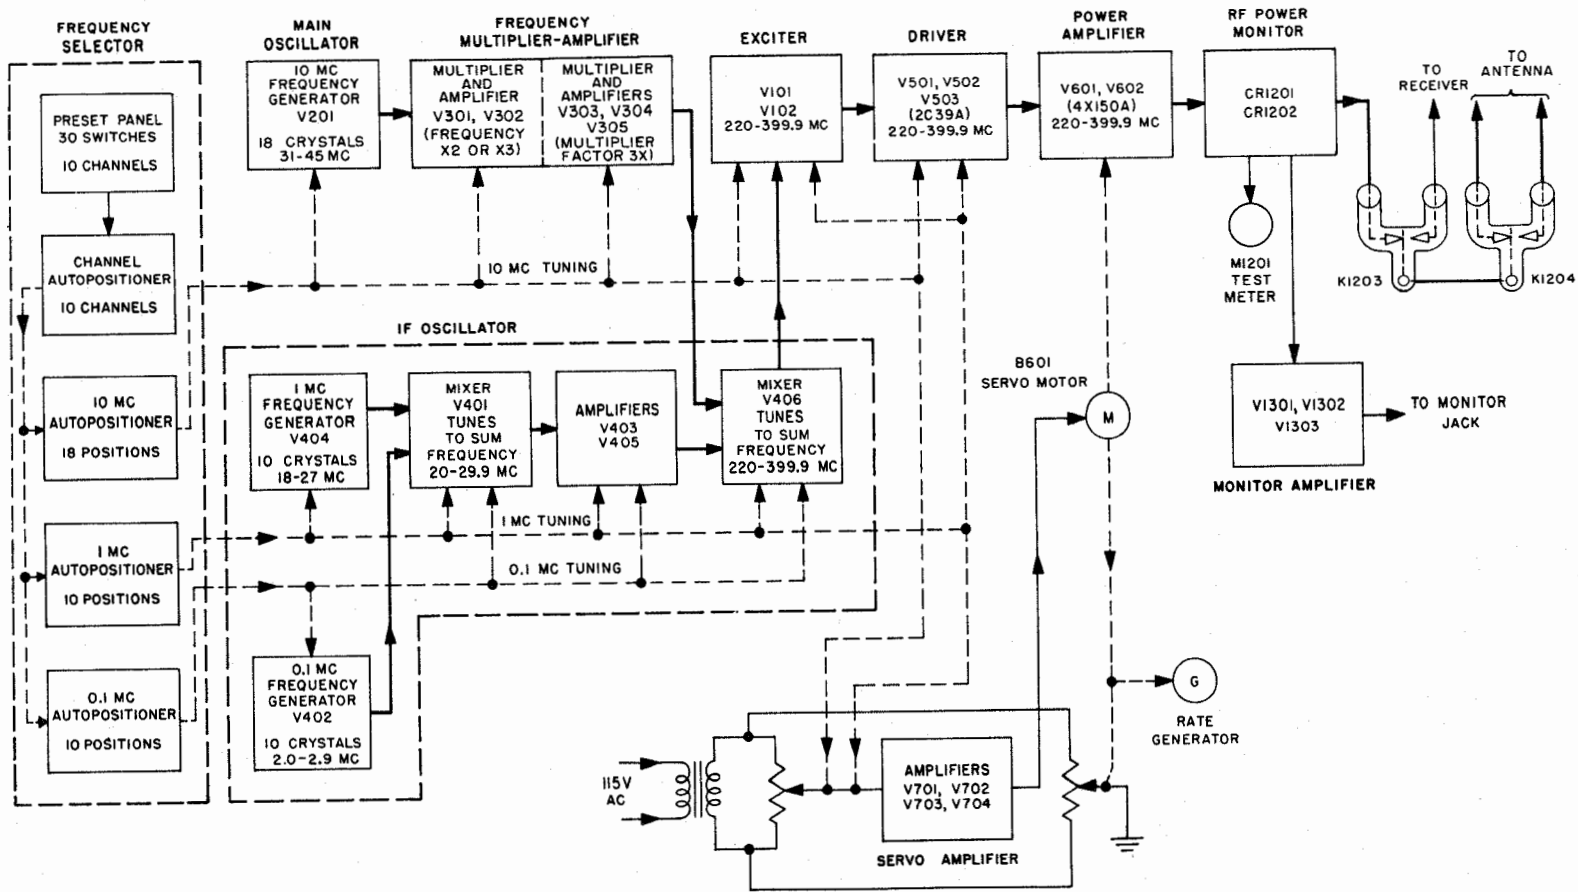

Figure 4-5. Radio Transmitter T-217A/GR, Functional Block Diagram
Figure 4-5 is the complete functional block diagram of Radio Transmitter T-217A/GR. It shows the interrelation of the various sub-assemblies. A brief description of the major circuits shown in this figure is given in the following paragraphs.
(4) FREQUENCY MULTIPLIER-AMPLIFIER.—The frequency multiplier-amplifier uses five stages of multiplication and amplification. The signal from the main oscillator is doubled or tripled in the plate circuit of V301. The signal is again tripled in the tuned plate circuit of V303. The frequency multiplier-amplifier delivers one of 18 frequencies spaced at 10-mc intervals in the range of 200-370 mc to mixer V406, in the i-f oscillator.
(5) I-F OSCILLATOR.—(See figure 4-5.) The i-f oscillator section includes two oscillators, referred to as the 1-mc frequency generator and the 0.1-mc frequency generator. Oscillator tube V404 and its ten crystals generate any one of ten frequencies at 1-mc intervals in the 18 to 27-mc frequency range. The frequency generated is determined by the crystal selected and also by the plate tuning accomplished by the 1-mc autopositioner. Oscillator tube V402 and its ten crystals generate any one of ten frequencies at 0.1-mc intervals in the 2.0-2.9 mc frequency range as determined by the crystal selected. These two frequencies are added in mixer V401, amplified in V403 and V405, and the sum frequencies added with the output frequency from the frequency multiplier-amplifier in mixer V406. The i-f oscillator produces one of 100 frequencies spaced at 0.1-mc intervals in the range of 20-29.9 mc.
(6) EXCITER AND DRIVER.—The signal from the second mixer is amplified in the exciter and then in the driver. The exciter and driver sub-assemblies are tuned by the 10-mc and 1-mc autopositioners in 1-mc steps from 220.0 to 399.9 mc. The stages are tuned to the center frequency of each 1-mc band, as the pass-band is broad enough to amplify the 0.1-mc variations at the extreme ends.
(7) POWER AMPLIFIER.—The power amplifier amplifies the output from the driver to produce a